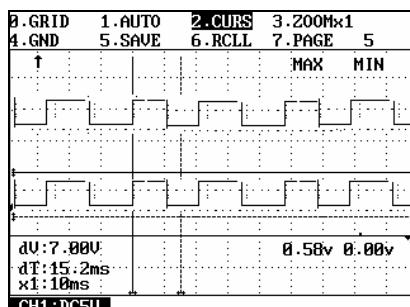

Fig.2-09
- (3) [3. MOVE CURS B] –moving the cursor with a dotted line
- (4) [4. MOVE A& B] –moving the cursor with a full or dotted line.
When item 2, 3 or 4 is selected, the cursor will be displayed as shown in Fig.2-09.